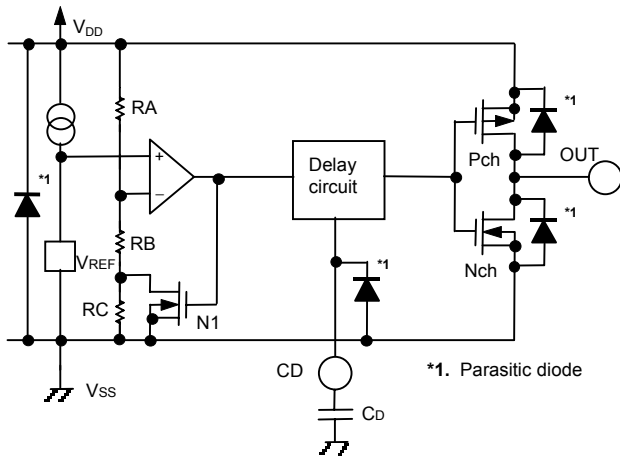
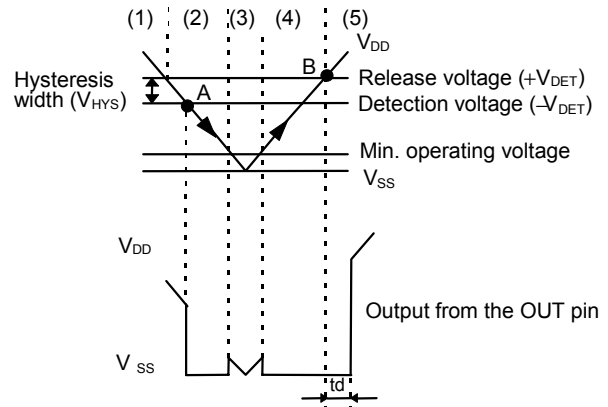

Figure 14
Figure 15
- (1) When the power supply voltage V_{DD} is higher than the release voltage $+V_{DET}$, the N-channel transistor is off and the P-channel transistor is on to provide V_{DD} (high) at the output. Since the N-channel transistor N1 in **Figure 14** is off, the comparator input voltage is $(RB+RC)/(RA+RB+RC) \times V_{DD}$.
- (2) When the V_{DD} goes below $+V_{DET}$, the output provides the V_{DD} level, as long as the V_{DD} remains above the detection voltage $-V_{DET}$. When the V_{DD} falls below $-V_{DET}$ (point A in **Figure 15**), the N-channel transistor becomes on, the P-channel transistor becomes off, and the V_{SS} level appears at the output. At this time the N-channel transistor N1 in **Figure 14** becomes on, the comparator input voltage is changed to $RB/(RA+RB) \times V_{DD}$.
- (3) When the V_{DD} falls below the minimum operating voltage, the output becomes undefined, or goes to the V_{DD} when the output is pulled up to the V_{DD} .
- (4) The V_{SS} level appears when the V_{DD} rises above the minimum operating voltage. The V_{SS} level still appears even when the V_{DD} surpasses $-V_{DET}$, as long as it does not exceed the release voltage $+V_{DET}$.
- (5) When V_{DD} rises above $+V_{DET}$ (point B in **Figure 15**), the N-channel transistor goes off, the P-channel transistor goes on, and V_{DD} appears at the output after the delay time t_d counted by the delay circuit.
The delay circuit delays the output signal from the time at which the power voltage V_{DD} exceeds the release voltage ($+V_{DET}$) when V_{DD} is turned on. The output signal is not delayed when the V_{DD} goes below the detection voltage ($-V_{DET}$). See **Figure 15**. The delay time(t_d) is determined by the time constant of the built-in constant current (approx. 100 nA) and the attached external capacitor (C_D), and calculated from the following equation.